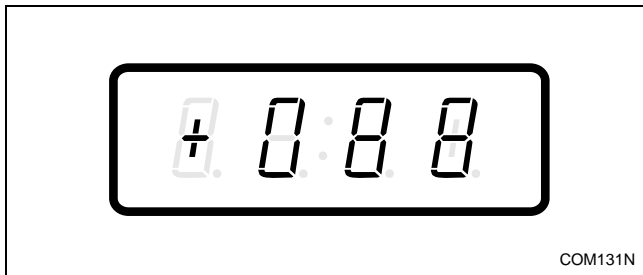

Figure 130
3. Press the DELICATES (+) or the COLD (-) keypad to scroll through the programmable options until “+088” appears in the VFD. Refer to *Figure 130*.